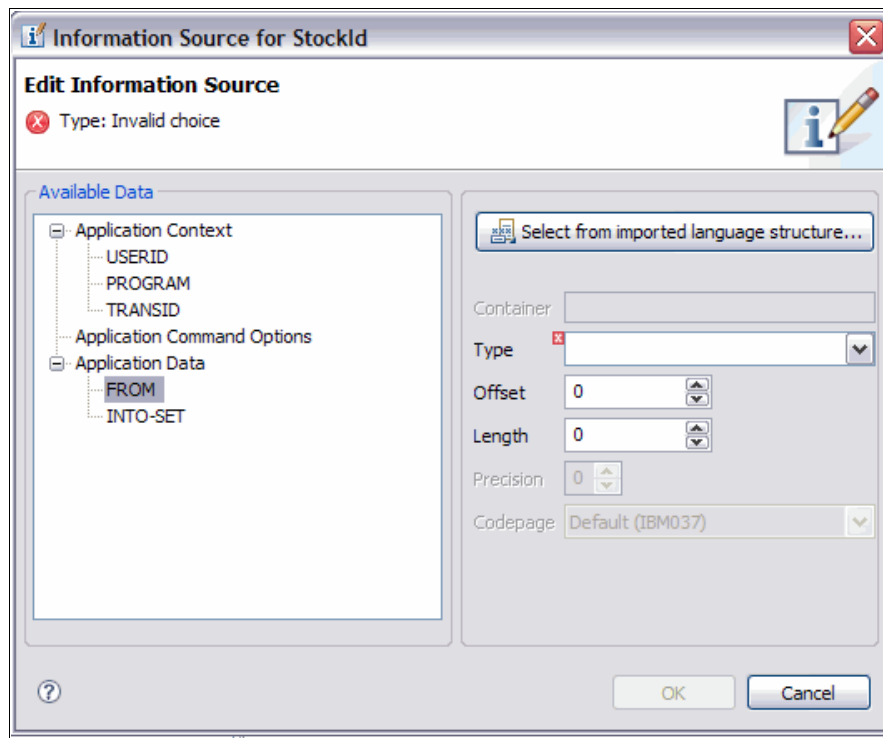

Figure 5-54 Import language structure
8. On the “Edit Information Source” panel (Figure 5-54 on page 137), click **Application data FROM** and then click **Select from imported language structure**.